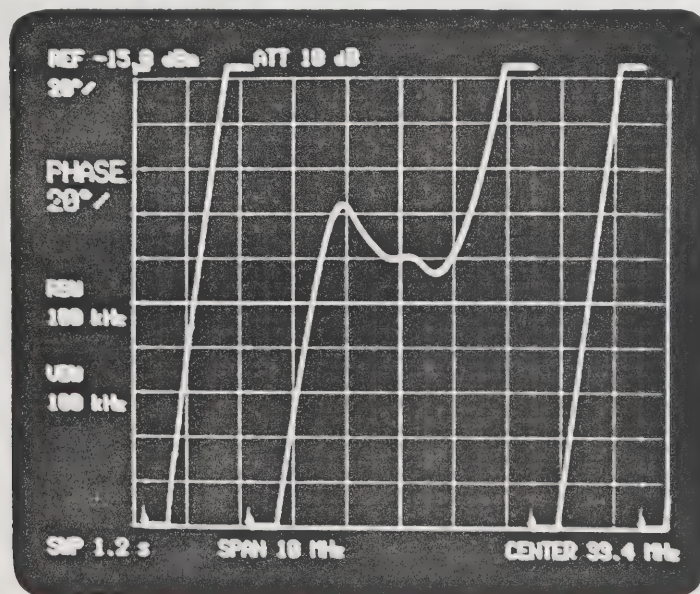

Fig. 7-8 Increasing phase resolution
- (10) To obtain higher resolution for group delay measurement, resolution for phase measurement must be increased.
- The phase readout (XX°/) in the active function display area will increase (Figure 7-8).